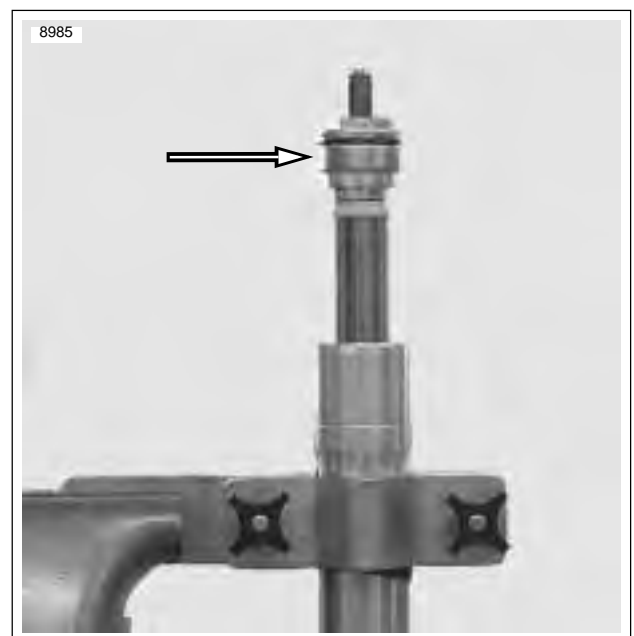

Figure 2-63. Removing Fork Cap From Outer Tube
5. See Figure 2-63. Remove fork cap from outer tube.